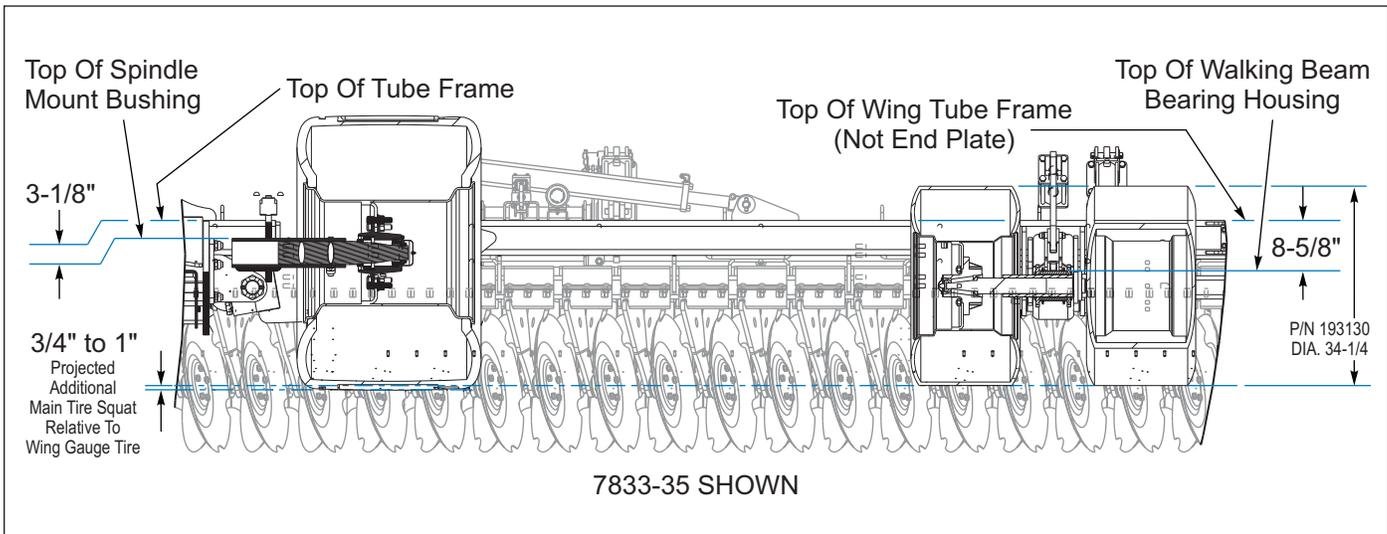

Figure 4-4: Synchronizing and Leveling Front Gauge Points
The HSL has been adjusted prior to being shipped, but it is appropriate to re-check or re-set it. *See Figure 4-4.*
2. The Main Wheels of the Frame Hitch are not adjustable. Leveling the front of the HSL from side to side is accomplished by adjusting the Wing Front Gauge Points. With the four Front Gauge Point Cylinders completely retracted, place a long straight edge across the top of the Center Section Frame. Measure from the top of the Hitch Rockshaft Spindle Bushings to the top of the top Center Section Frame. Confirm the distance to be approximately 3-1/8". *See Figure 4-4.*